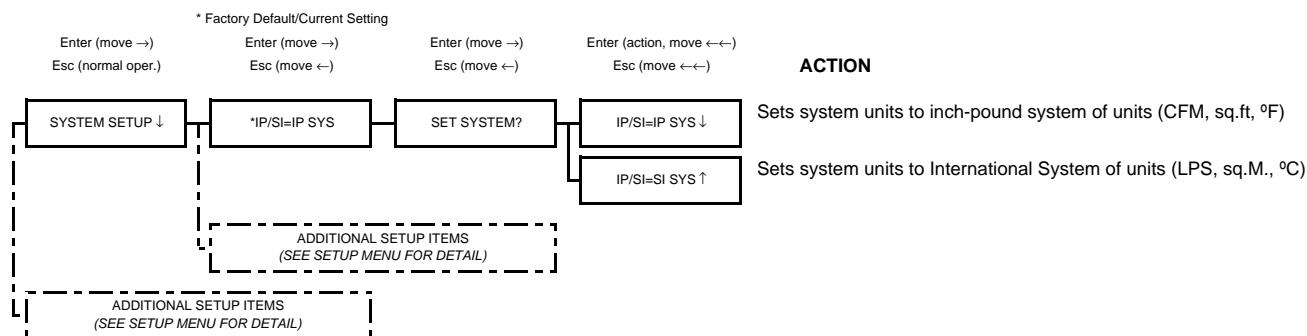

Figure 9. System of Units Menu
The GF-2100-A/GF-2200-A transmitter is shipped with the system of units set to US inch-pound units (IP), and will display units of measure as shown in the IP column of Table 2. To change to standard international (SI) units, simultaneously press and release the "UP" and "DOWN" arrow pushbuttons during normal operation to enter the SETUP menu. Then, using the ENTER button, navigate into the SYSTEM SETUP menu to the System of Units sub-menu as shown in Figure 9. Press "ENTER" to proceed to the right (three times), and then use the "UP" and "DOWN" arrow buttons to select the system of units desired. Press the "ENTER" button to save the changes, and then press "ESC" twice to move left and return to normal operating mode. Note that all Menu illustrations are shown in IP System Of Units. When SI System of Units is selected, the menu units of measure abbreviations change as shown in the SI column of Table 2.